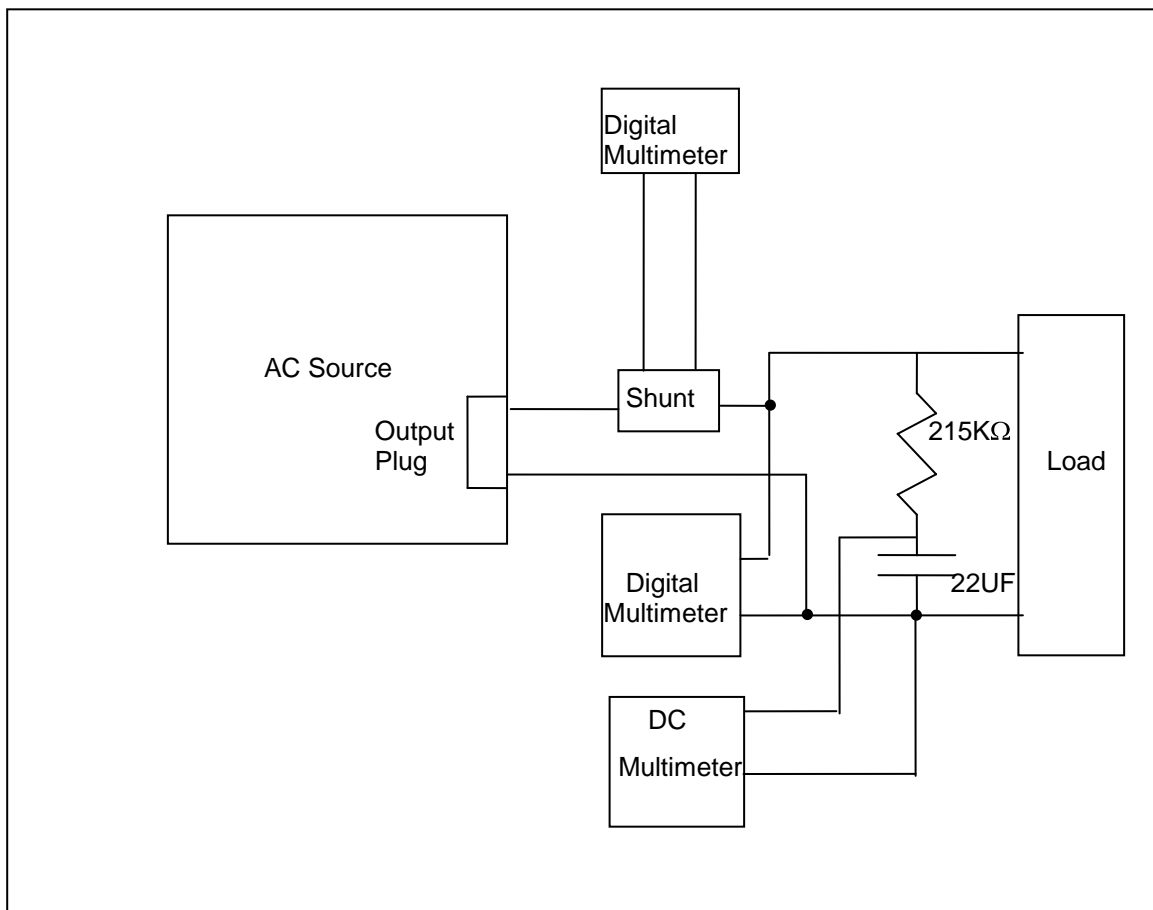

Figure 6-2: Test Equipment Hook-up for Measurement Calibration
1. Connect the test equipment to the power source as shown in Figure 6-2.
2. Measure the DC offset at the output using Fluke 8840 or equivalent. Verify that offset is less than $\pm 0.025V$. Measure the DC voltage across a 22 μf capacitor connected to the output through a 215K resistor. Refer to Figure 6-2.